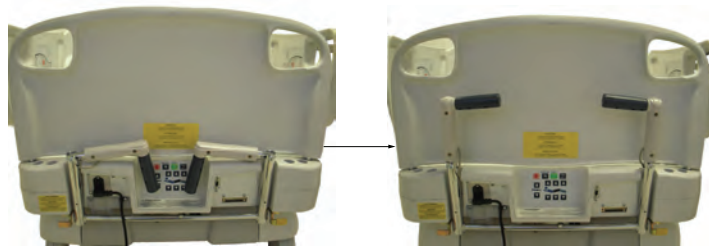

Figure 7: Unfolding the Zoom motorized drive handles
3. Unfold the drive handles from the head end of the product (Figure 7 on page 23). Make sure that the drive handles lock into the upright position.